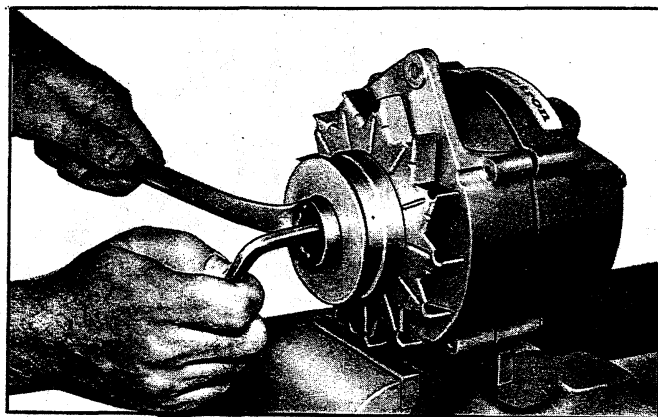

Fig. 15c—Pulley Removal
1. Place 15/16" box wrench on retaining nut and insert a 5/16" allen wrench into shaft to hold shaft while removing nut (fig. 15c).